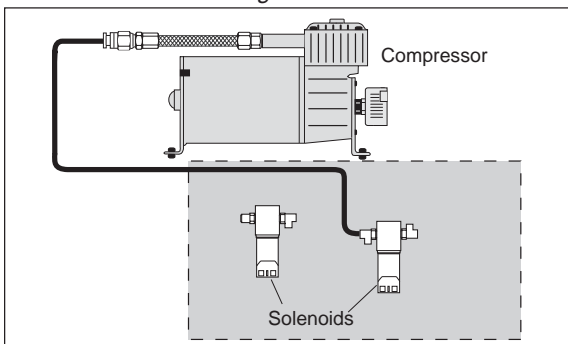

Figure 11
2. Route the air line (I) to the passenger side solenoid (F) with two tee fittings installed on the solenoid (Figure 11).